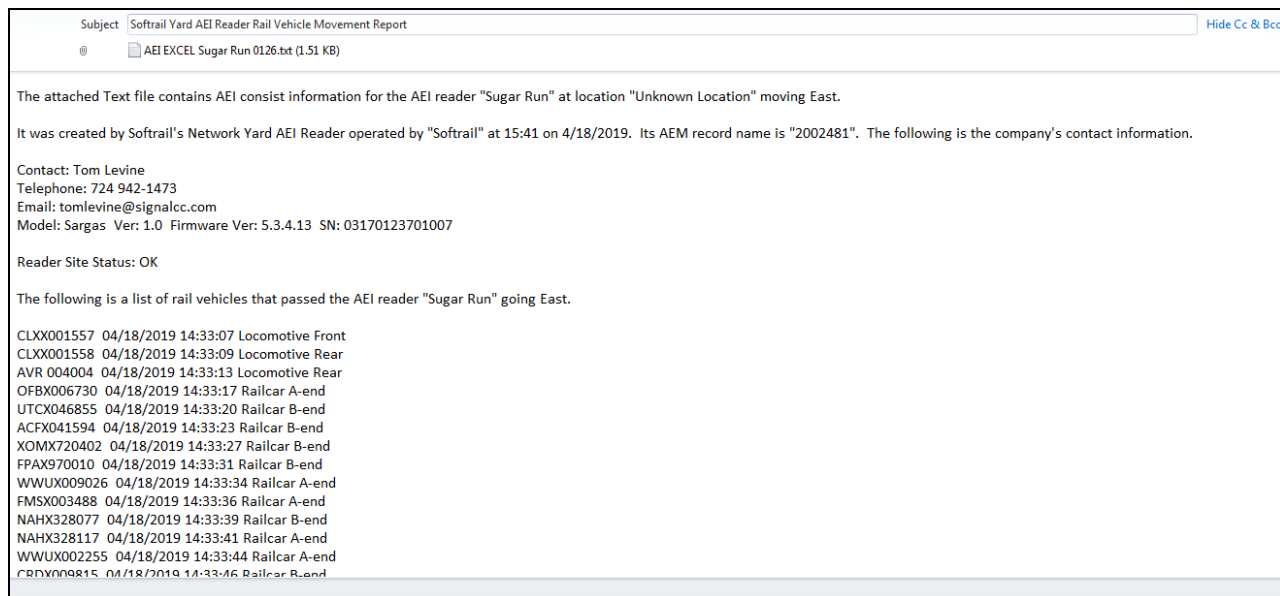

Figure 17 - Train Reporting Email
- Train Reporting messages with information about rail vehicle movements past the reader. An example can be found in Figure 17.